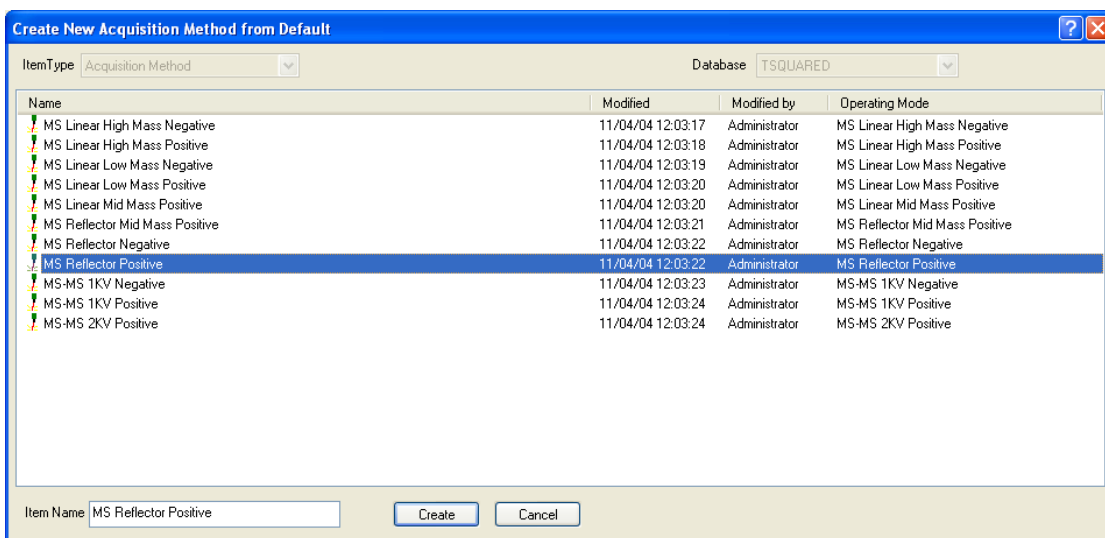

Figure 4-1 Create New Acquisition Method Dialog Box
1. Select **File > New > Acquisition Method**. The Create New Acquisition Method from Default dialog box opens (Figure 4-1).